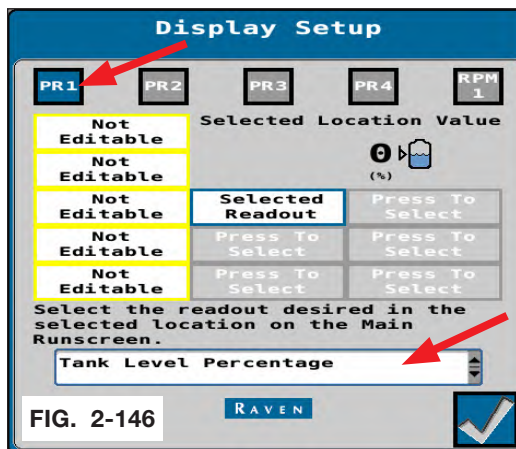

FIG. 2-146
- After selecting “PR1”, click any gray box labelled “Press To Select” and the box changes to “Selected Readout”. This is where the boundary control button appears on the Main Home Screen. (FIG. 2-146)
- Click drop down box. (FIG. 2-146)